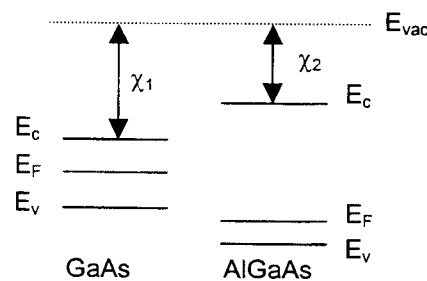

Figure 2.1: Heterojunction energy band diagram of p⁺-AlGaAs and un-GaAs before contact, relative to the local vacuum level
2. The energy band diagram of both un GaAs and p⁺ AlGaAs is given relative to the vacuum level in Figure 2.1.